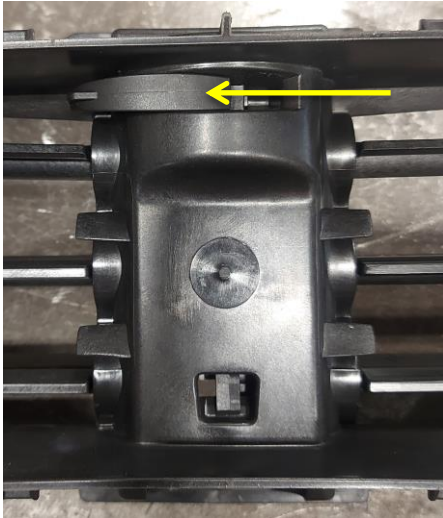

Figure 5
10. Remove clip, shown in Figure 5 that secures the motor in place by sliding it to the left.